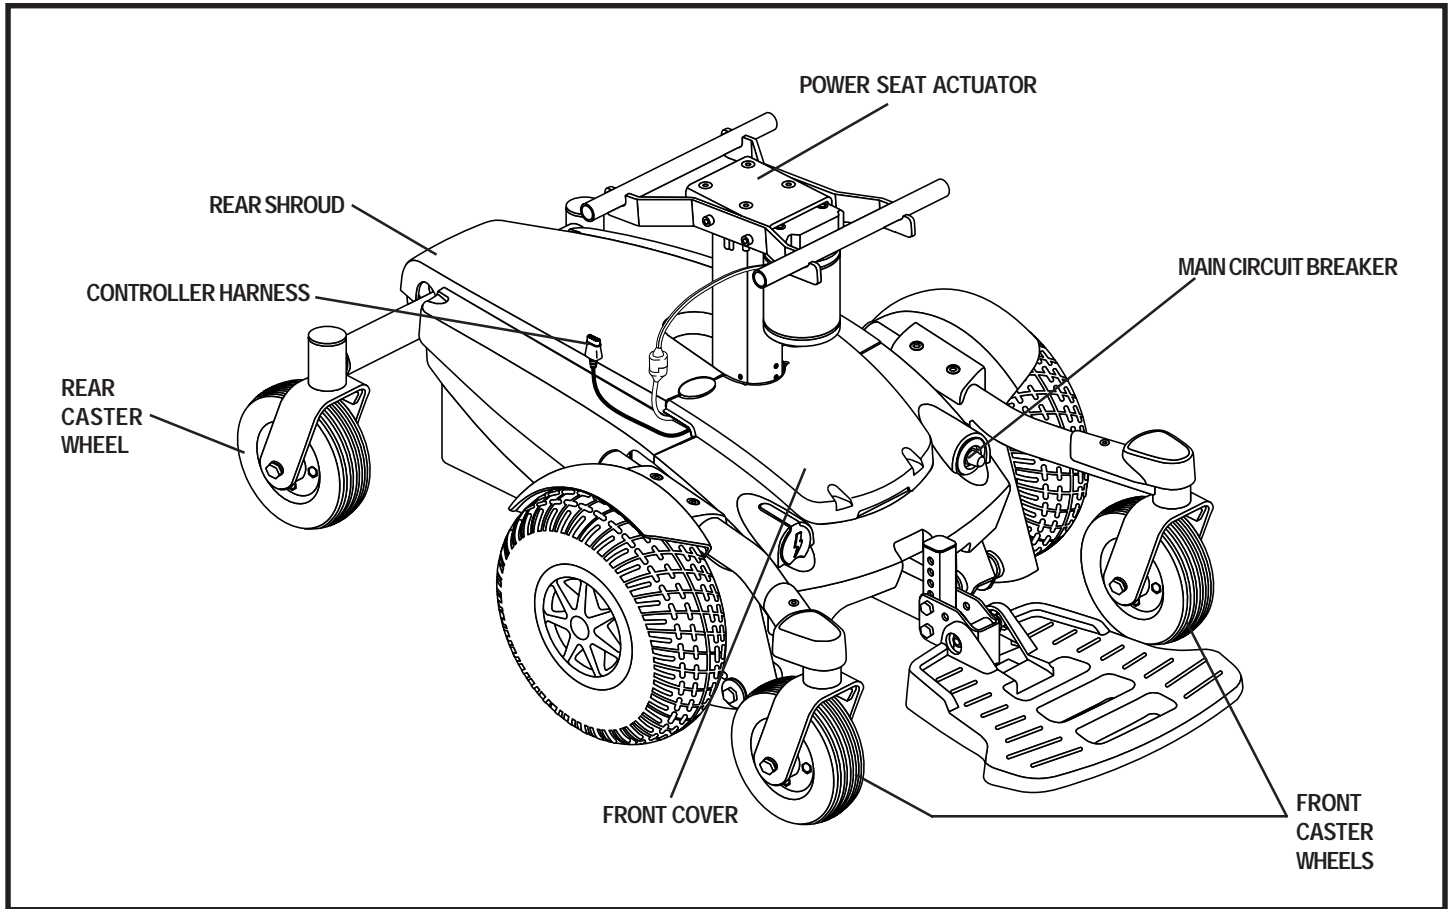

Figure 8. The Jazzy Select 6 Ultra Power Base
6. Plug the controller harness into the connector on the power base. See figure 8.